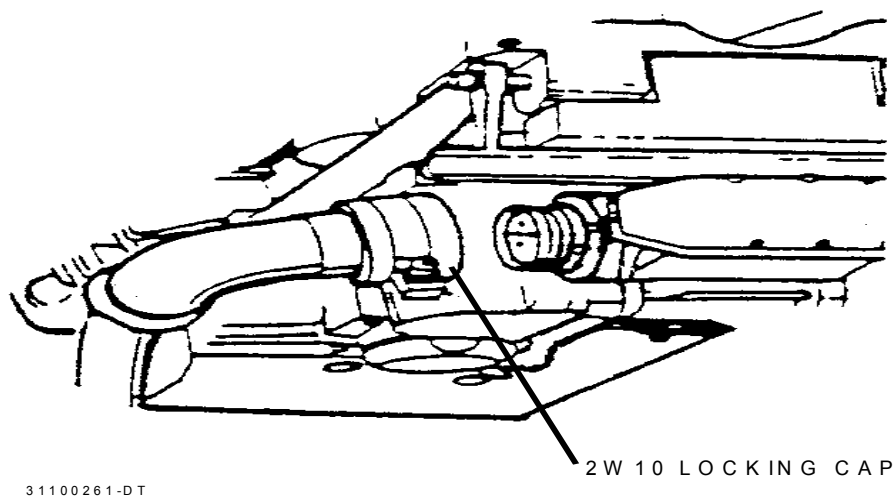

Figure 2-35. M2/M3 Main Gun Receiver 2W10 Locking Cap.
- f. Rotate locking cap on cable 2W10 counterclockwise. Disconnect connector from electrical receptacle on main gun receiver (Figure 2-35).